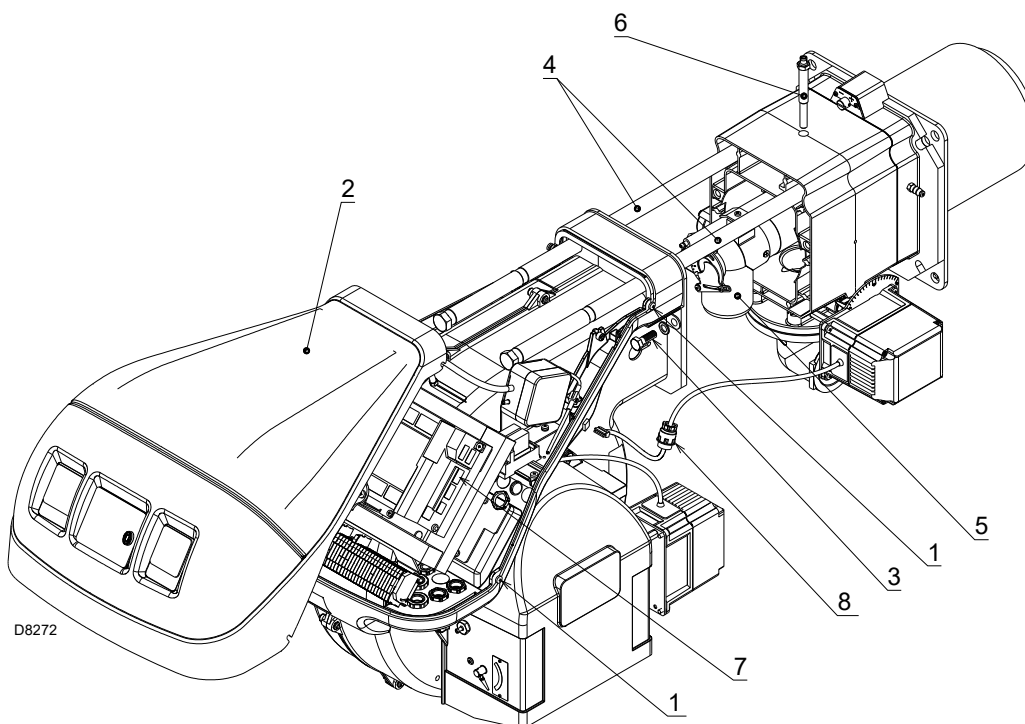

Fig. 39
Open the burner and make sure that all the components of the combustion head are undamaged, not deformed due to high temperature, free of ambient dirt or dust, free of rusted materials and adequately positioned. Make sure that the gas outlet holes for the start-up, on the combustion head distributor, are free of dirt or rust deposits. If in doubt, disassemble the elbow (Fig. 39 at page 55).
- Loosen the 4 screws 1)(Fig. 39) and remove the hood 2).